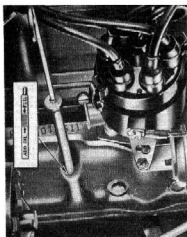

Fig. 23—Oil Gauge Rod
1. Raise the hood, remove the oil gauge rod (fig. 23), wipe oil from rod with clean cloth and replace. Remove gauge rod and note level of oil. If down to the "add oil" mark, oil should be added. See "Lubrication Instructions." Install oil gauge rod.